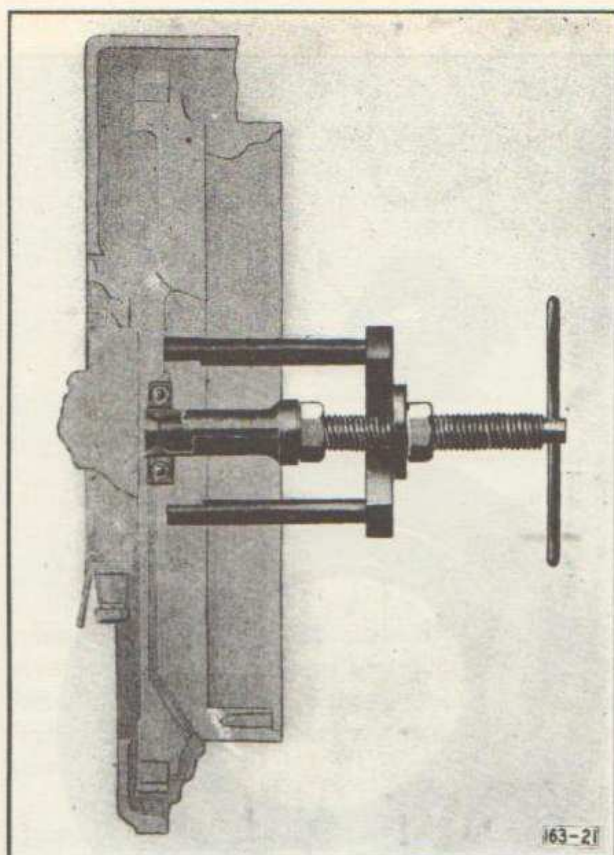

Fig. 6—Removing Pilot Bearing
Remove clutch pilot bearing (19) as shown in Figure 6 using puller tool shown.